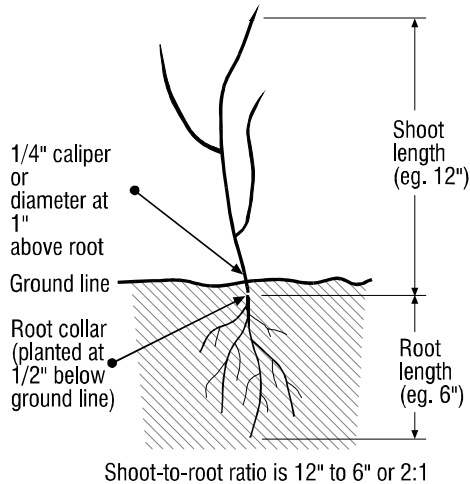

Figure 1. Plant or stock size requirements (for example only).
*Seedlings shall not be less than 1/4" in caliper at 1" above the root collar. For cuttings, avoid using material less than 3/4" in diameter, cut off tops with apical buds, remove side branches, and produce lengths long enough to reach adequate soil moisture required by the individual species during the growing season. Tops of dormant-season collected cuttings may be dipped into latex paint, paraffin or sealing wax to prevent desiccation and mark the up-end. Rooted planting stock must not exceed a 2:1 shoot-to-root ratio. See figure 1. Container stock shall normally not exceed a 1-gallon can size.*